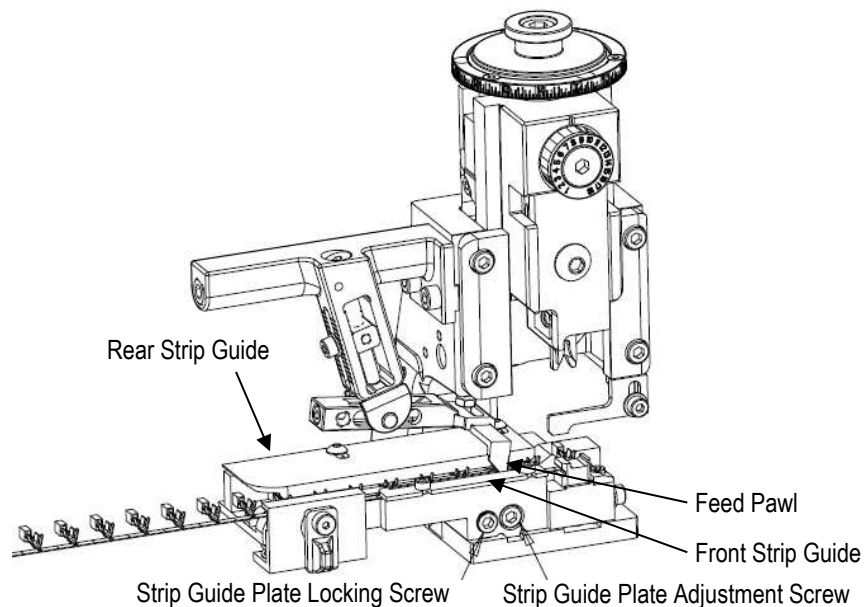

Figure 20
1. From the front of the strip guide plate, loosen the Strip Guide Plate Locking Screw (see Figure 20).